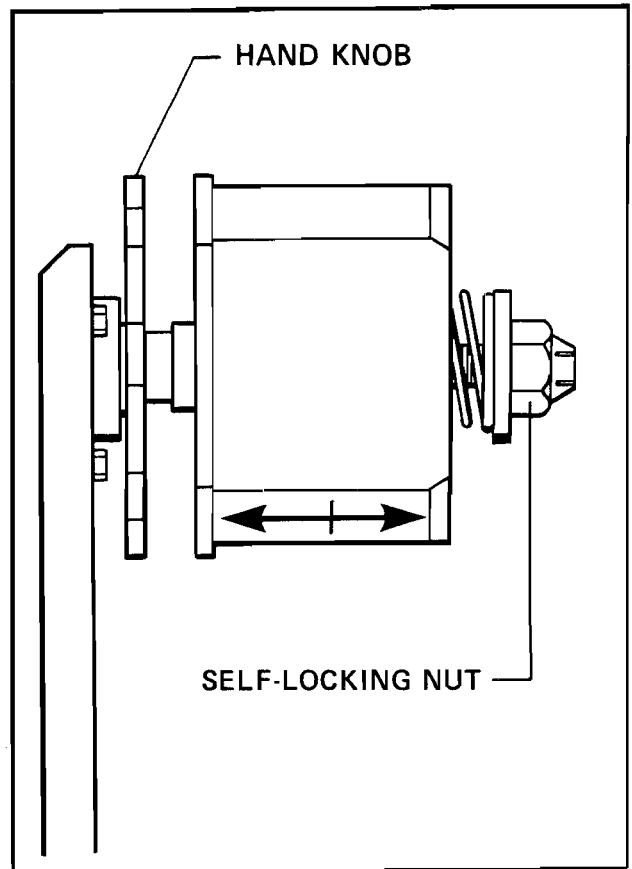

FIGURE 19A
1) Friction Brake - Refer to Figure 19A.